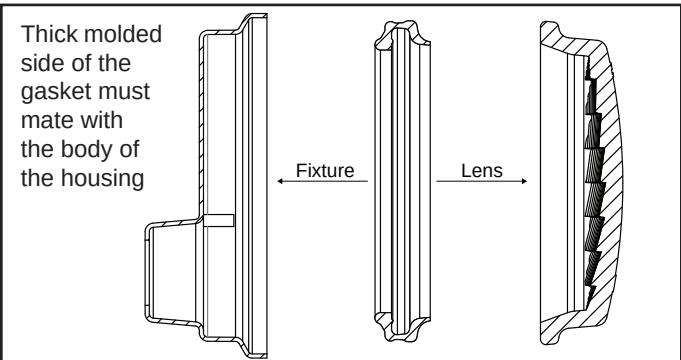

Figure 10. Cross Section of Jandy Pro Series White LED Light
2. While holding the fixture upright, place the glass lens with the gasket on top of the fixture. Please note that the lens gasket is not symmetrical. Therefore, it must be installed correctly so that the lens can seal to the fixture housing. Place the gasket on the lens with the orientation shown in Figure 10. On the small light, replace the diverger by tucking the tabs between the lens and gasket.